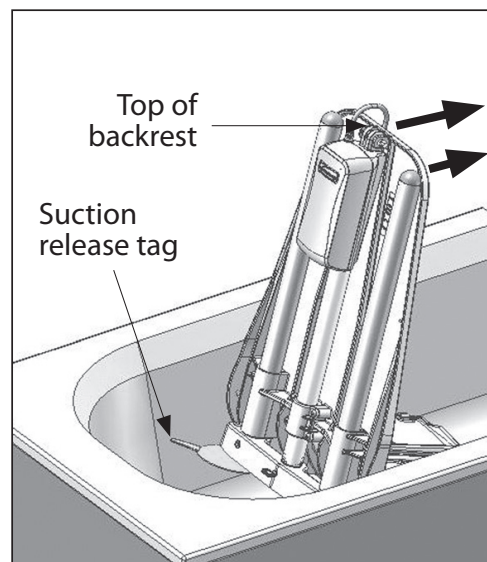

Figure 4
- While holding the top of the backrest, pull the suction release tags on the rear suction feet then tilt the bath lift forward (**fig 4**);
- iv) Unfold the two side flaps so they rest against the sides of the bath/tub. (Side flaps ease transfer on and off the bath lift and also prevent finger entrapment.) If side flap protectors are required and have been fitted to integral bath/tub handles, ensure the two side flaps are resting substantially on them. If the side flaps are still likely to catch under handles, move the side flap protectors as far as possible along the handles until the side flaps are over them **(see fig 4)**.